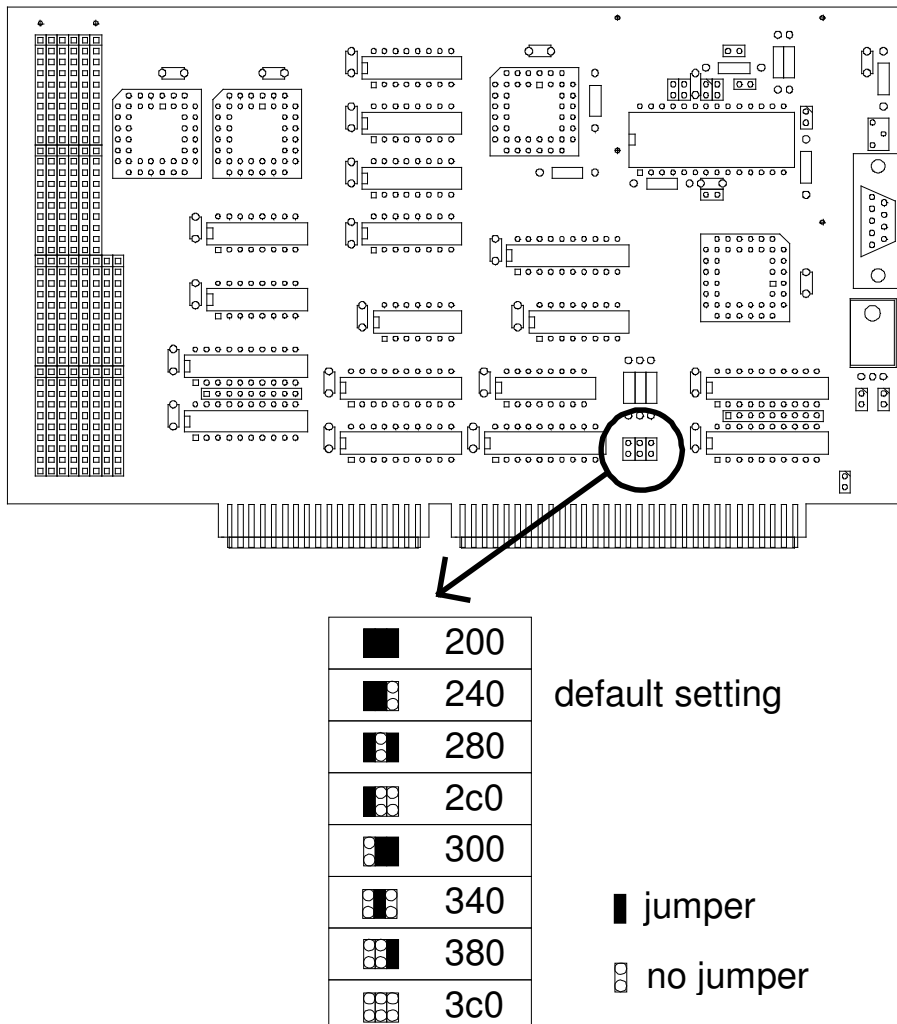

Fig. 1: Location of the base address selection jumpers
- Before inserting the Accumulating Framegrabber in your PC, please check the jumper settings for selecting the base address of the board. Refer to fig. 1 for determining the correct settings.